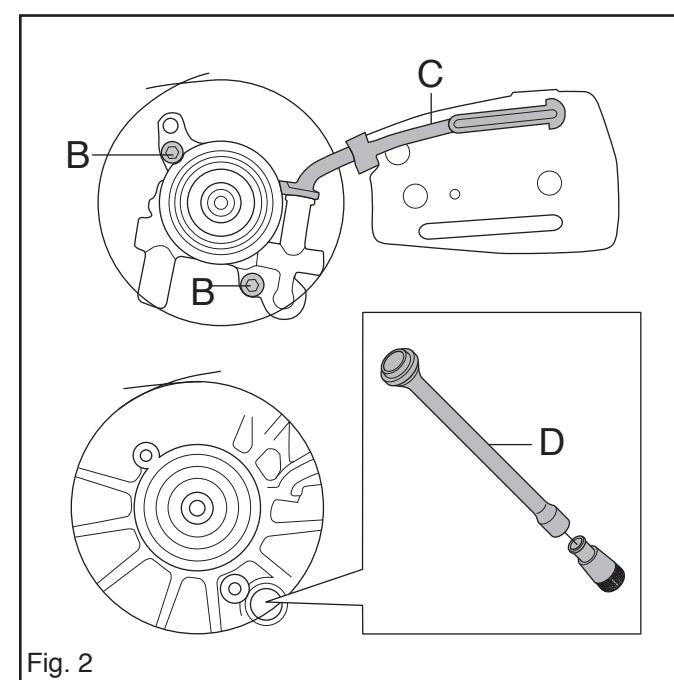

Fig. 2
4. Remove the two bolts (B) and lift up the oil pump from the crankcase. See fig. 2.
5. Use a screwdriver to push up the oil hose at C. Lift up the hose and pull it out of the oil pump. See fig. 2.
6. Use pointed pliers and pull up the suction pipe (D) with filter. See fig. 2.
1. Insert the suction pipe (D) in the hole in the crankcase. See fig. 2 page 28.